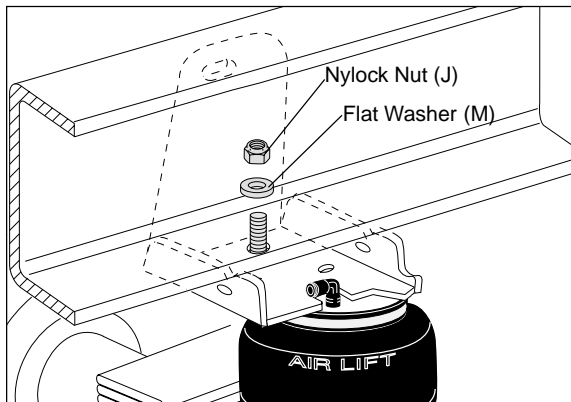

Figure 8
4. Install nut (J) and washer (M) on to the carriage bolt that was inserted through the jounce bumper bracket hole (Figure 8).